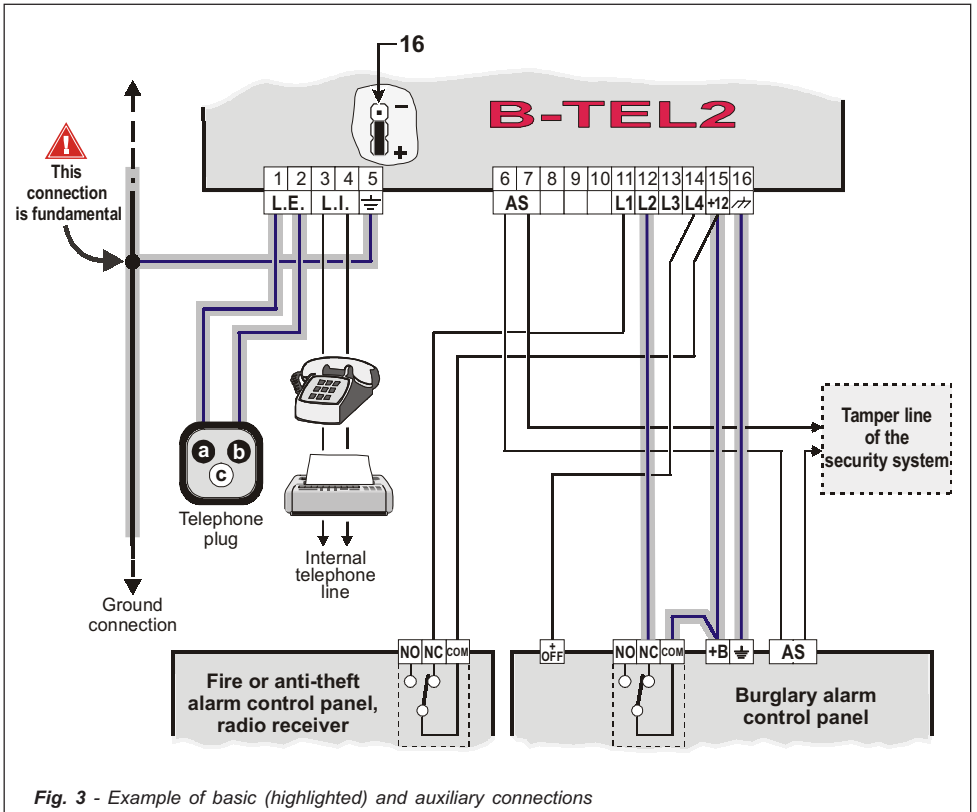

Fig. 3 - Example of basic (highlighted) and auxiliary connections
The basic connections are necessary for dialer function. They are illustrated, with the channels highlighted, in Figure 3. In the connection example, alarm channel L1 is connected to the normally closed contact (NC) of the burglary system and receives, under normal conditions, the positive input voltage.
The dialer does not require auxiliary connections in order to function. However, these connections provide many useful options. All auxiliary connections are shown in Figure 3 and described in the following paragraphs.
**Tamper** - Connection to tamper line terminals allows detection of possible attempts to tamper with the dialer box. In Figure 3, these terminals are connected in series to the security system tamper line.